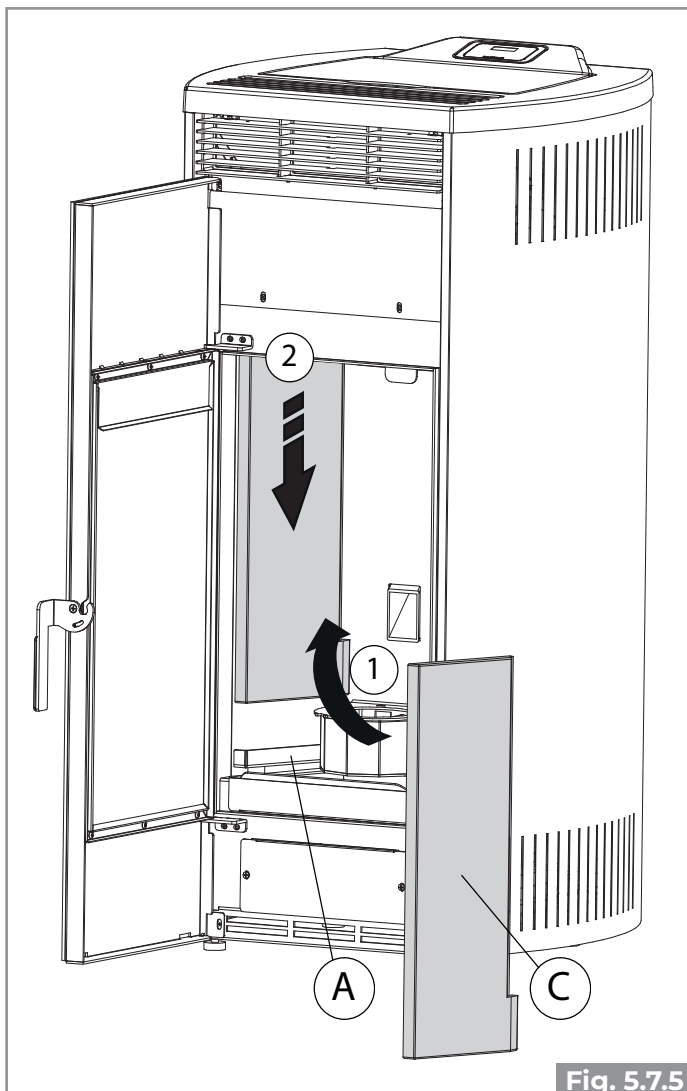
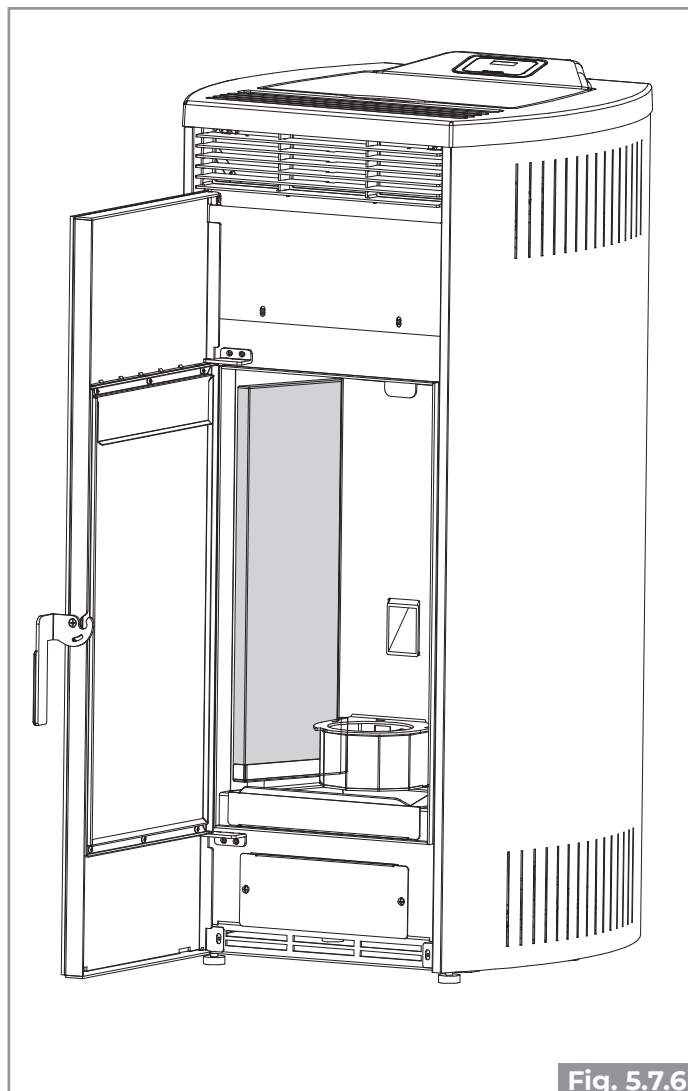

Fig. 5.7.5
Fig. 5.7.6
- Position the left refractory wall C inside the combustion chamber by inserting the bottom of the wall itself into the slot formed on the support A (**Fig. 5.7.5 - Fig. 5.7.6**)